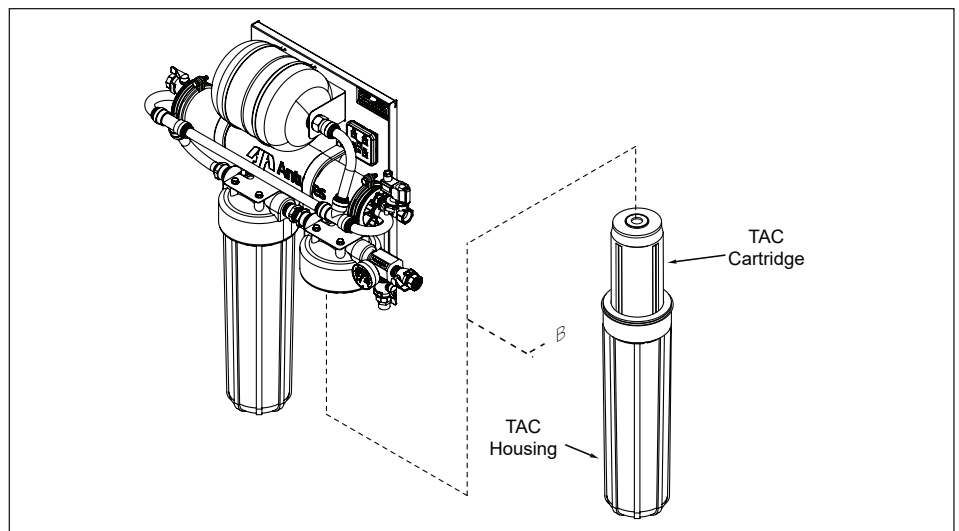

Figure 11. Removing the TAC Housing
3. Remove the TAC Housing (Figure 11).